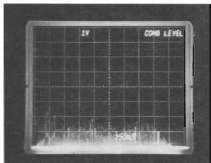

FIGURE 6-6
- (1) Set-up counter as described in paragraph 6-20c(1).
- (2) Jumper A203TP14, TP15, and TP16 together.
- (3) Connect Channel A 10X scope probe to A203-TP12. Trigger scope from A203TP20 (Reset).
(4) Press RESET switch.
(5) Adjust A203R64 to level comb lines to 1 volt nominal (see Figure 6-6).
(6) Remove jumpers from TP14, TP15, and TP16.